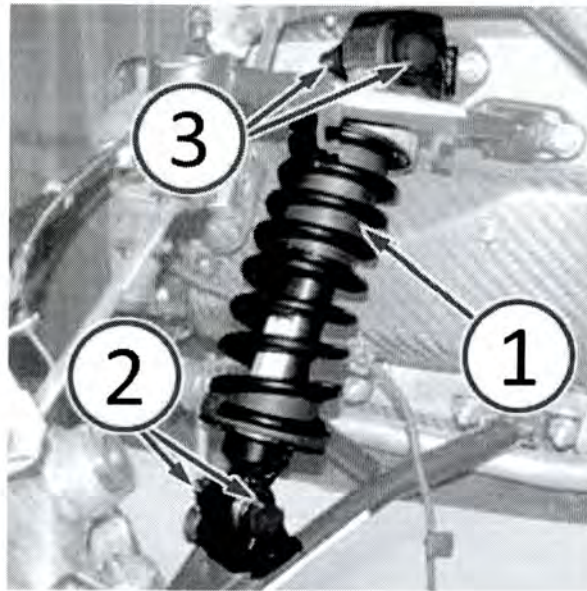

Fig. 12 Install Shock Absorber Using New Fasteners
23. Place the shock absorber (1) into the proper mounting position (Fig. 12).
24. Install by hand but do not fully tighten the **NEW** lower M12 shock absorber fasteners (2) (Fig. 12).
25. Install by hand but do not fully tighten the **NEW** upper M14 shock absorber fasteners (3) (Fig. 12).
27. Tighten the lower M12 nut (2) to 120 N·m (89 ft. lbs.) (Fig. 12).
28. Tighten the upper M14 nut (3) to 150 N·m (110 ft. lbs.) (Fig. 12).